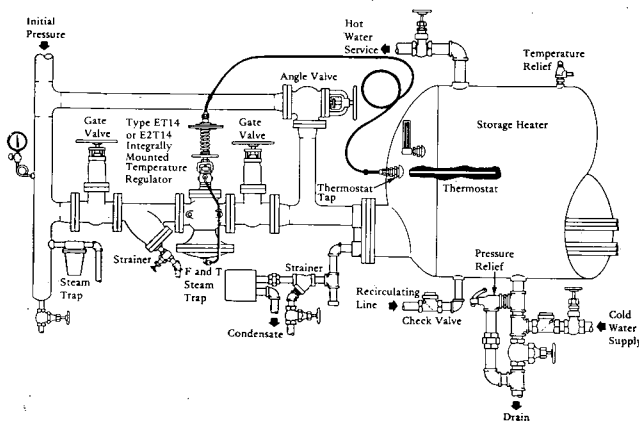

Fig. 1 - Recommended installation of a Spence Type ET14 or E2T14 integrally mounted temperature regulator on a storage heater
1. Locate the regulator in a straight run of horizontal pipe as shown in Fig. 1.
- b. Storage heaters generally provide a thermostat tap located as shown in Fig. 1.